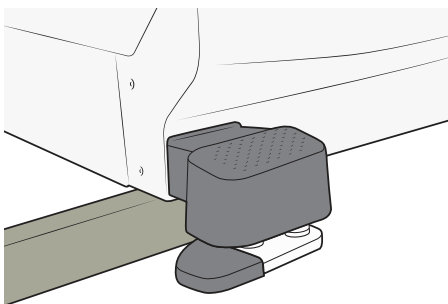

Figure 112
2. Lift the head end (with your hands or use a crowbar) and slide the wood lever in under the chassis. See Figure 112.